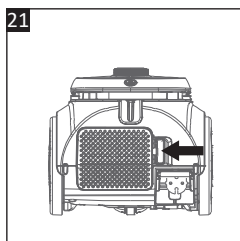

Fig. 21
2. On the back of the vacuum cleaner, push the tab of the air outlet cover (25) towards the left to unlock and remove it (**Fig. 21**).